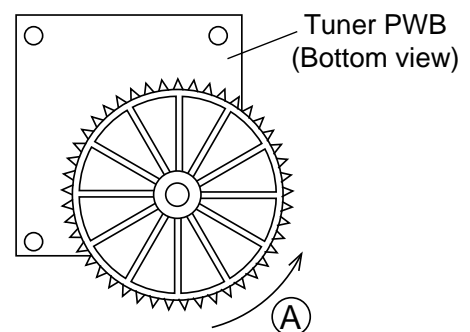

Figure 7-3
2. Turn fully the dial wheel in the (A) direction. (See Fig. 7-3)